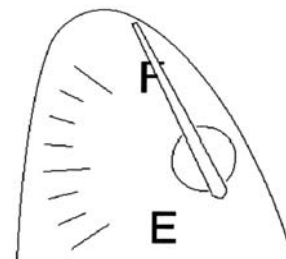

Fig. 2
- o If the needle deflects so far that it touches the housing (see Fig. 2), the printed circuit board is broken and the instrument cluster must be replaced.